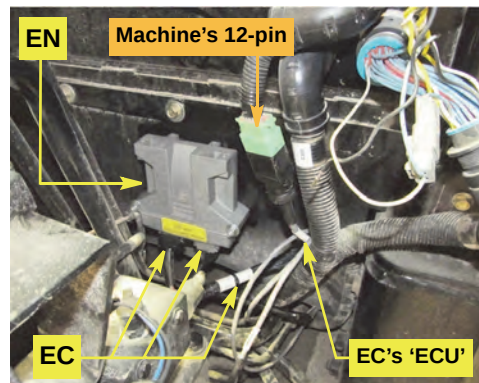

Figure 3c: Steering controller main cable connected and its connection to ECU
- c. Behind the cab, connect steering controller cable **EC's** two 12-pin connectors (black and gray) to their respective sockets on steering controller **EN** (Figure 3c).
Locate the machine's 12-pin connector (the external continuation of the 12-pin cabling in step 3a). Connect it to **EC's** branch cable labeled 'ECU' (Figure 3c).